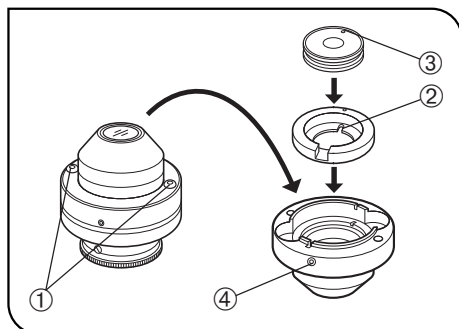

Fig. 38
**With the WI-DICD Condenser (Fig. 38)**